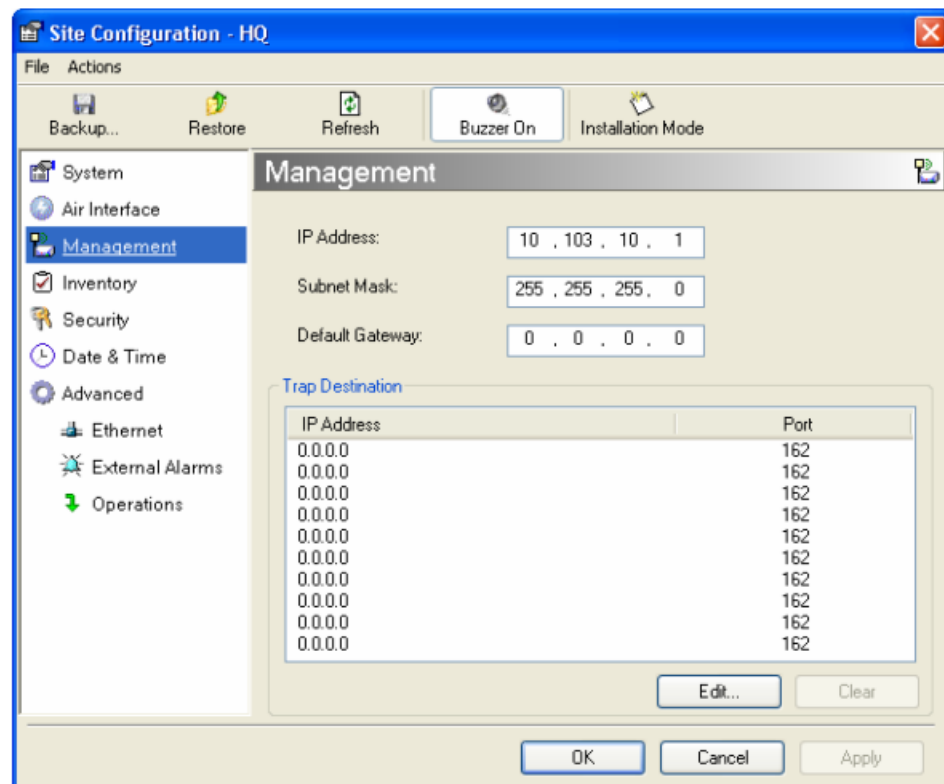

Figure 4-12. Configuration, Management
3. Select **Management** (see *Figure 4-12*).